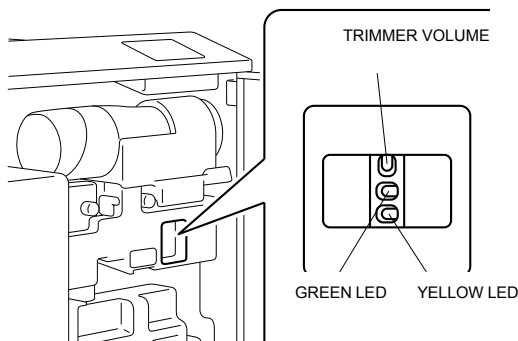

Figure 5-26
- Adjust the developer unit potentiometer (Figure 5-26) until both the Green and Yellow LED indicators are completely OFF.**
- The ATDC adjustment mode will continue to run for approx. (3) three minutes and turn off.